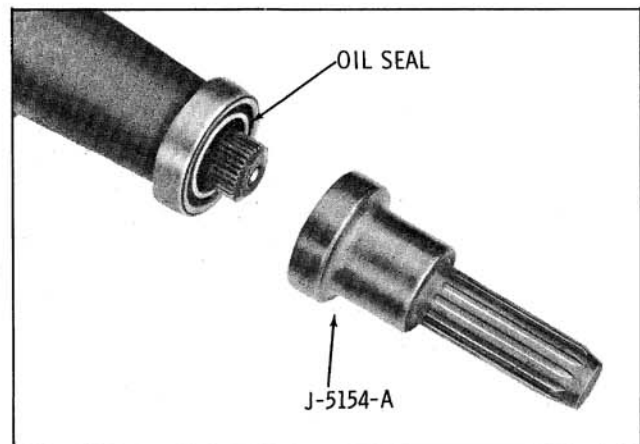

Fig. 7-43 Oil Seal Installation
5. Apply Sealer Part No. 1050026 to the outside of the seal and install new seal in the rear bearing retainer using Tool J-5154-A. (Fig. 7-43)